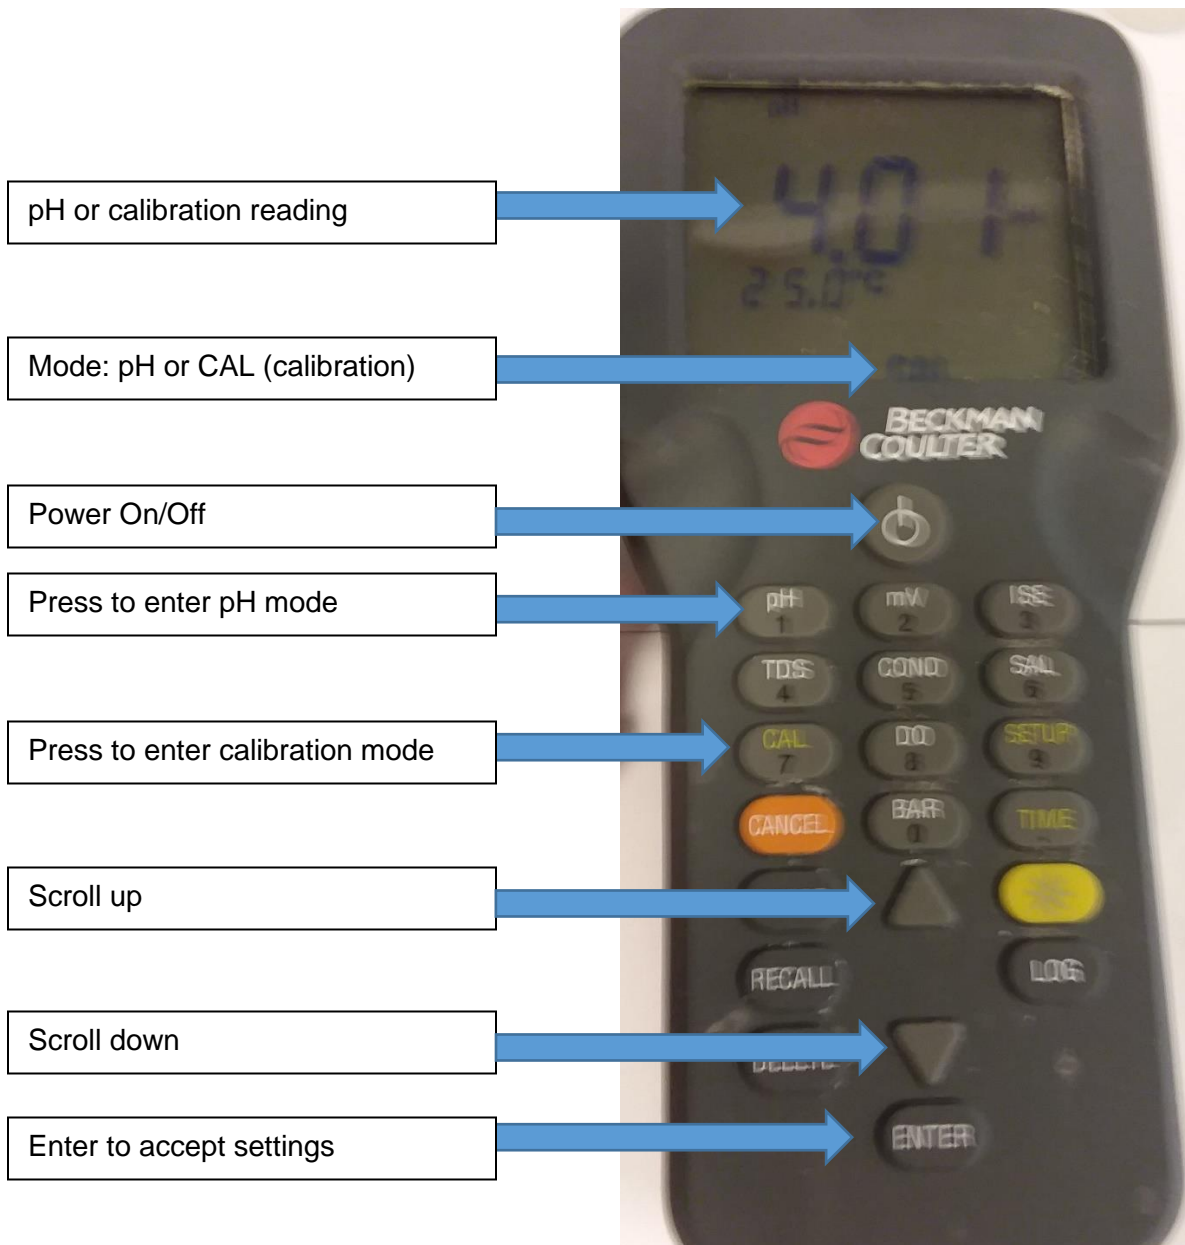

FIGURE 1
3.2.2 Calibration Instructions (Refer to Figure 1 on the following page)